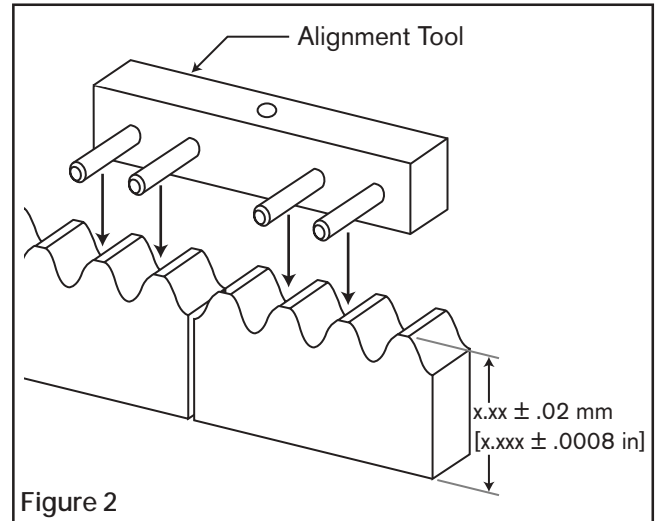

Figure 2
4. Insert a connecting jig between the two racks (Refer to Figure 2).